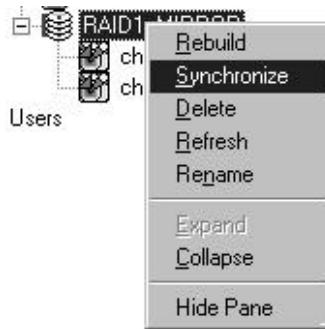

Figure 76: Array Synchronization pull-down
- 2) Right-click the array icon, and choose "Synchronize" from the pull-down menu (see Figure 76) or select "Array" from pull down menu at top and choose "Synchronize" from the pull-down menu. This will initiate the process.